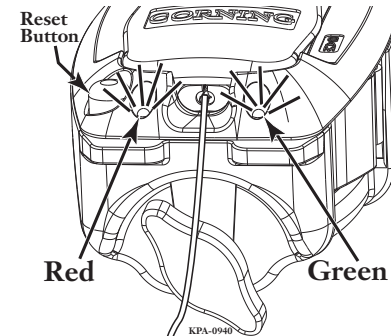

Figure 74 — Check Termination Lights
Step 3: Check the Termination Lights (Figure 74).